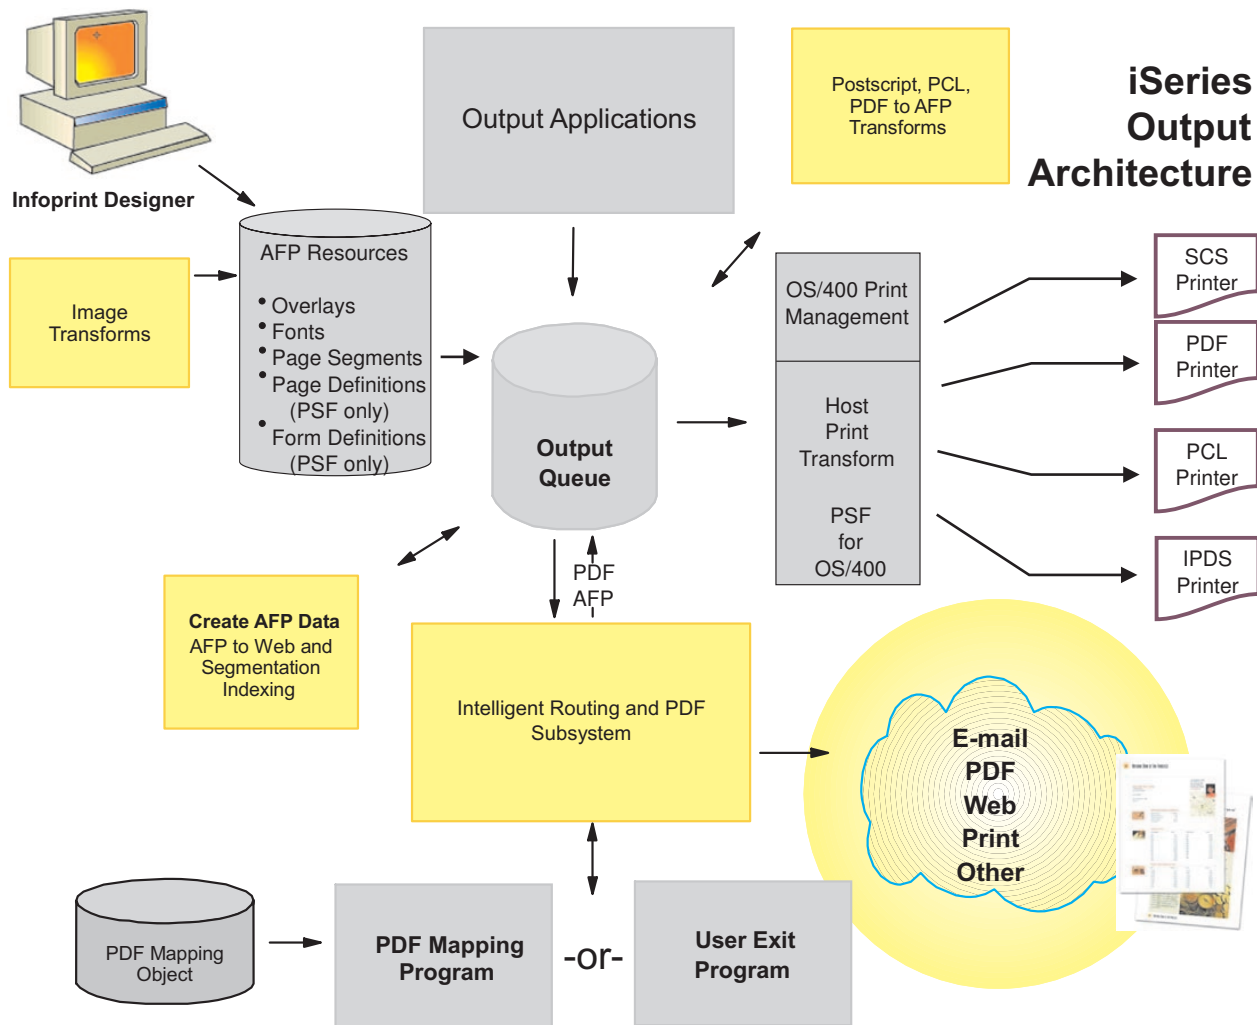

Figure 2. iSeries Output Management with Infoprint Server
Infoprint Server opens up this print architecture. Figure 2 on page 6 shows the functional elements that Infoprint Server adds to the picture. The general focus is in two major areas: (1) projecting OS/400 output to the network, and (2) incorporating the network into the OS/400 print functions.